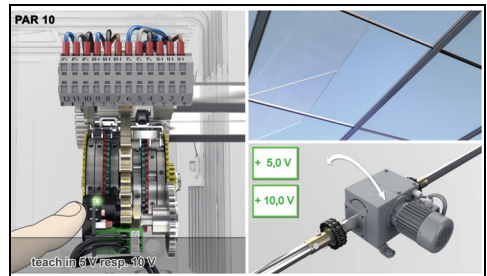

Fig. 27
- ▶ Press the end point button (green) (LED flashes green) until the LED lights up green (see Fig. 27). The final value is accepted and the signal output set to 5 V or 10 V, depending on the version. The green LED remains on for a further 5 seconds.